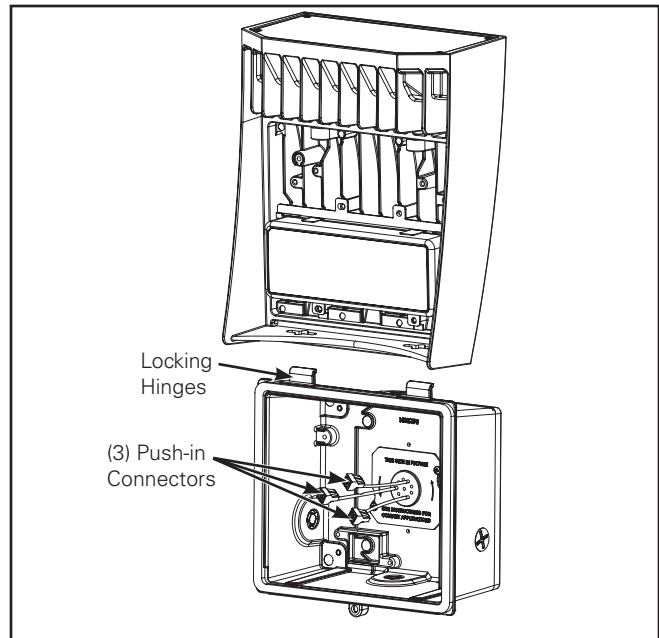

Figure 1.
1. Unscrew door with Phillips-head screwdriver. Remove door from back box and secure door into locking hinges located at the top of the back box. (Figure 1.)
8. Secure door into lock hinges located at the top of the back box (Figure 1). Reconnect the ground wire on the front cover and the black and white wires on the driver. Utilize Push-in connectors to make fixture-wiring connections. (See Wiring Diagrams.)